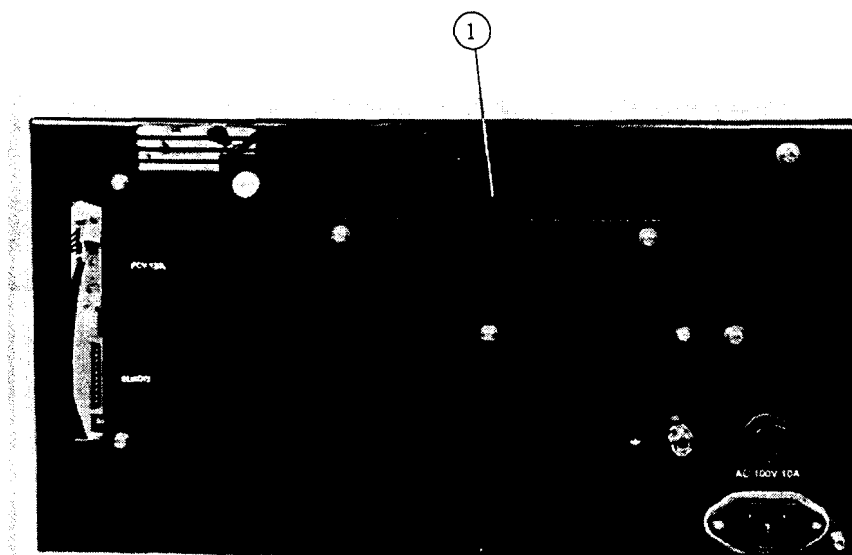

Fig. 7.1
- (2) Remove the upper cover of the LC-8A. Unscrew the fastening screws and remove the rear panel (① in **Fig. 7.1**).